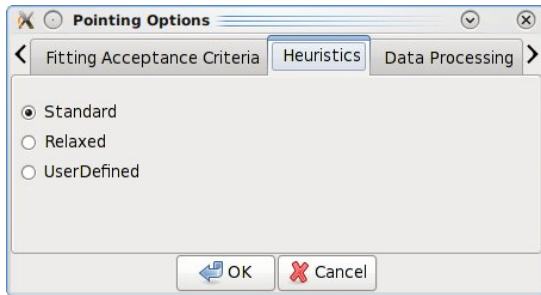

Figure 5.5: The pop-up menu to change the pointing and focus fitting heuristics.
**Step 3.** Select the new mode in the Heuristics tab of the pop-up window (see Figure 5.5).